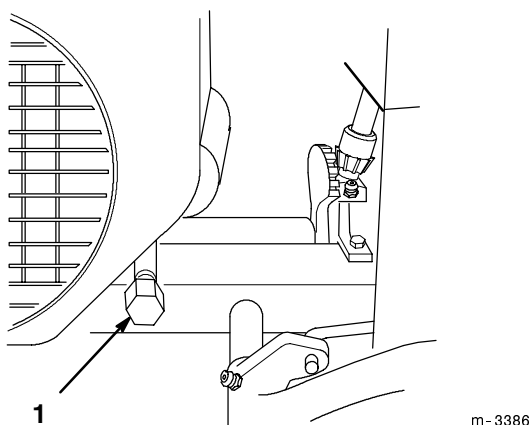

Figure 21
4. Place a pan below the oil drain. Open the drain by removing the cap (Fig. 21).